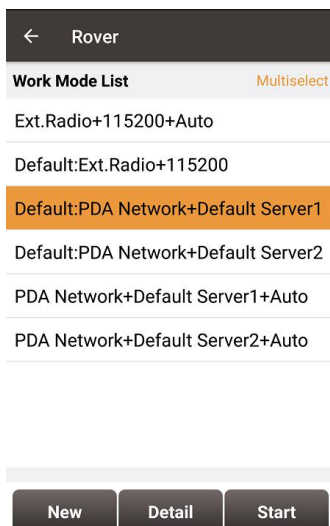

Figure 6.3 Rover setting interface
10. Select [Default: PDA Network+Default Server1] as shown in Figure 6.3, click [Detail] to configure the parameters of the Network.